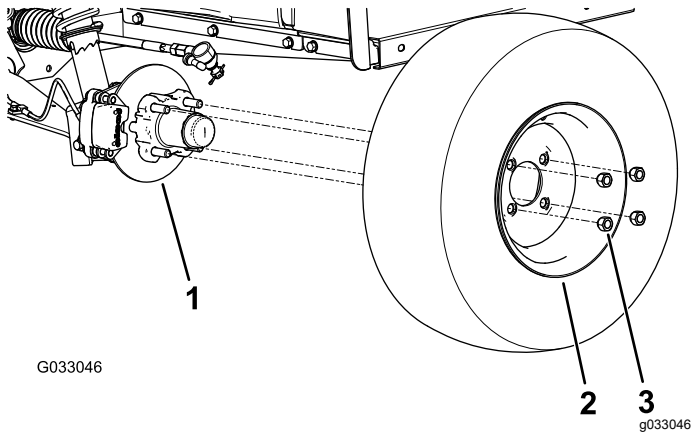

Figure 29
2. Remove the 4 lug nuts that secure the wheel to the hub (Figure 29).
4. Align the holes in the wheel to the studs of the hub and assemble the wheel to the hub with the valve stem outward (Figure 29).
5. Secure the wheel to the hub using the lug nuts (Figure 29).